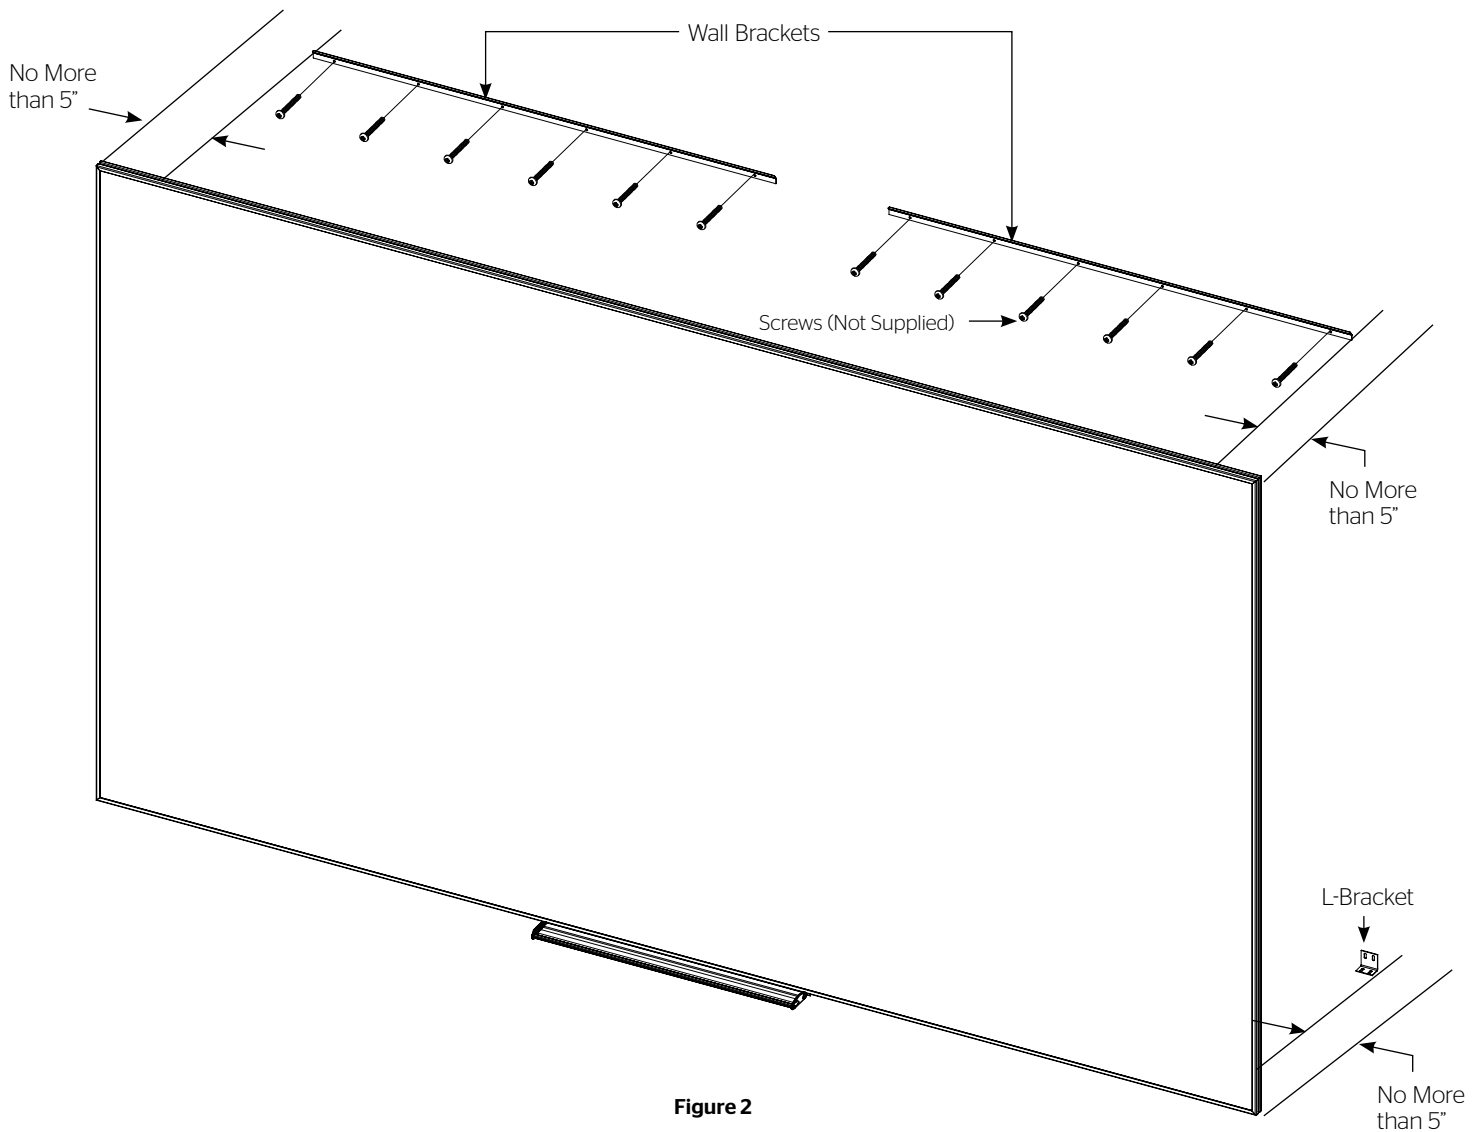

Figure 2
NOTE: The screen is shipped with two wall brackets. Screens in widths of 88" and below receive (2) 28" wall brackets. Screens above 88" in width receive (2) 44" wall brackets. Use appropriate mounting hardware for the wall type and to accommodate for the screen's hanging weight (Figure 2).
1. Secure the two wall brackets to wall studs at the desired height. The outside edge of each wall bracket must be no greater than 5" away from the left and right edges of the frame. You will need at least 1" clearance above the drilled holes to hang the screen (Figure 2).
2. To install the (2) L-brackets, you must measure the overall height of the screen frame and subtract $1\frac{1}{2}$ ". Using that dimension, measure down from the top edge of the wall brackets and mark the wall for two screw holes. The outside edge of each L-bracket must be no greater than 5" away from the left and right edges of the screen frame (Figure 2).